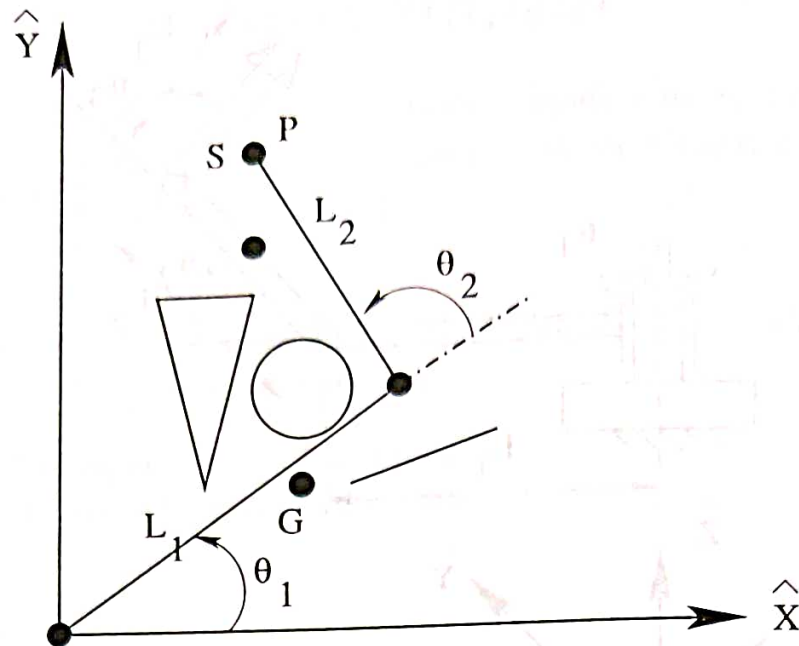

Figure 2.21: Collision-free movement of the end-effector of a 2 dof manipulator.
11. Let us consider a 2 dof manipulator working in 2-D plane as shown in Fig. 2.21. The lengths of two links are denoted by L_1 and L_2 , and L_1 is assumed to be more than L_2 . Starting from an initial position S , the tip of the manipulator P will have to reach the final position G after avoiding collision with the stationary point, line, triangular and circular obstacles, as shown in the said figure. Draw the plots of θ_1 vs. θ_2 to ensure collision-free movement of the tip. Use the following data: $L_1 = 15cm$; $L_2 = 12cm$; $S : (2.0, 5.0)$; $G : (2.5, 1.5)$; Circular obstacle: center $(2.5, 2.5)$ and radius $= 1.0cm$; Point obstacle: $(2.0, 4.0)$; Line obstacle: from point $(3.0, 1.5)$ to point $(4.5, 2.0)$; Triangular obstacle: coordinates of vertices $(1.5, 1.5)$, $(1.0, 3.5)$ and $(2.0, 3.5)$.